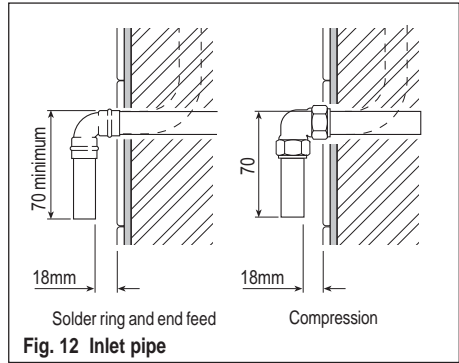

Fig. 12 Inlet pipe
5.5.5 Pipes for rear entry must be 18mm from the finished wall surface and be 70mm long as shown in fig. 12.